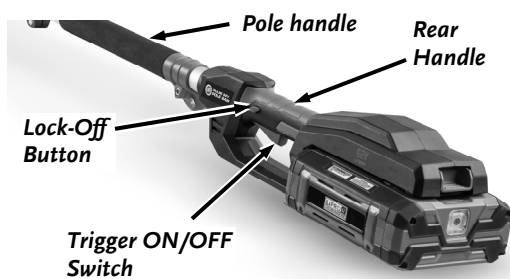

Figure 12
2. Firmly grip the Rear Handle with your right hand and the Pole Handle with your left hand - whether you are right or left handed (**Figure 12**).